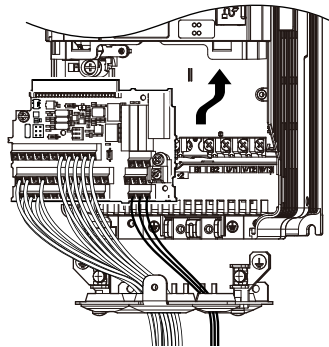

Figure 7.41 Install the Terminal Board
1. After wiring the main circuit, connect the terminal block to the drive as shown in Figure 7.41. Use the installation screw (M3: 0.49 - 0.73 N·m) to fasten the terminal block into place.